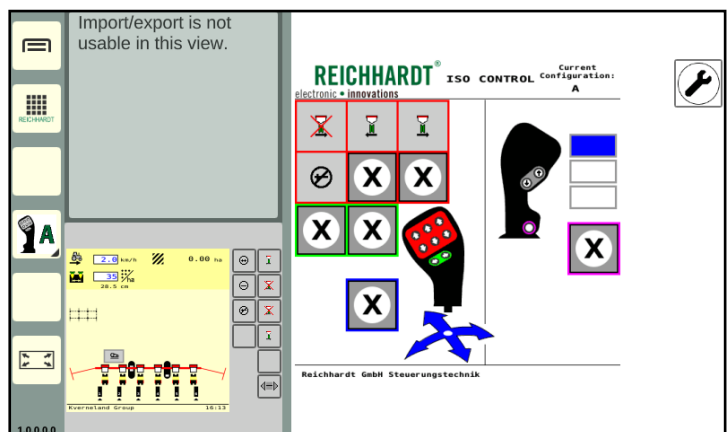

Fig. 59: Application is executed in the selected window
3. The application is then executed in the selected window (see Fig. 59).